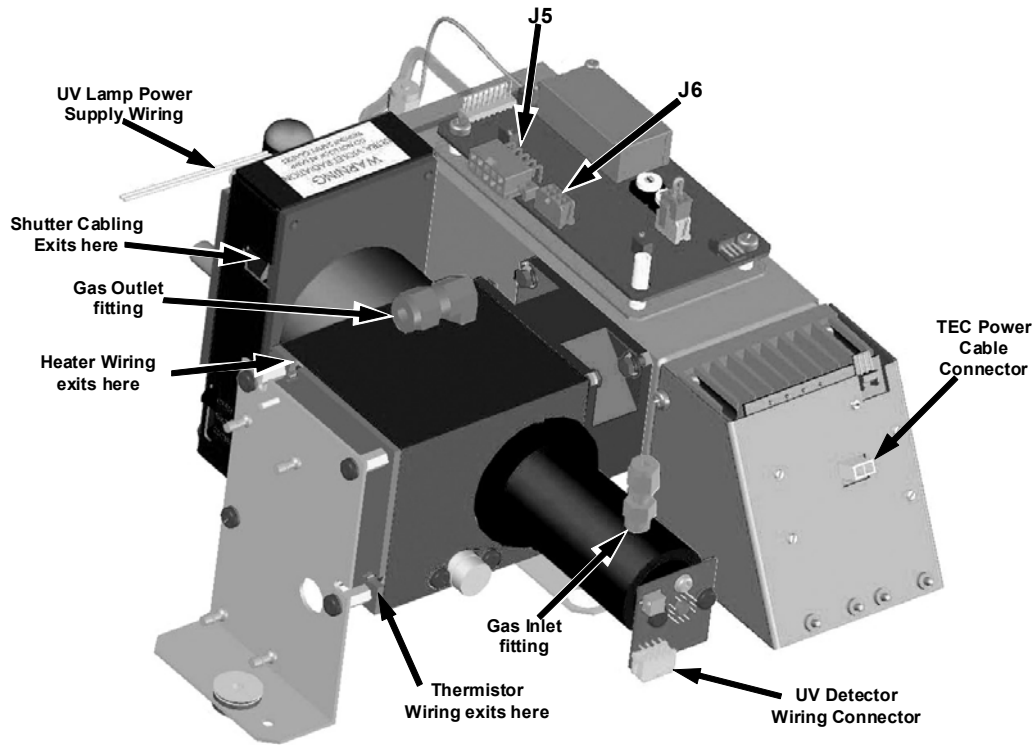

Figure 11-4: Sensor Module Wiring and Pneumatic Fittings
3. Disconnect the sensor module pneumatic lines (see Figure 11-4)